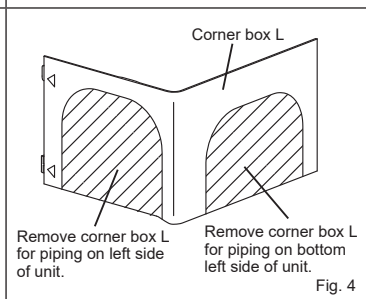
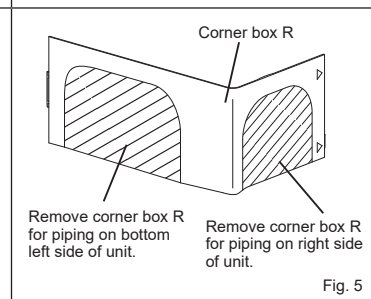

Fig. 4
Fig. 5
- 10) According to the piping direction, remove the shaded part of the corner box L (Fig. 4) or corner box R (Fig. 5). Reinstall electrical cover, corner box R and panel assembly.
- 6) Insert the drain hose into wall hole sleeve (C), and attach the upper part of indoor unit onto the installation plate (1). Then, shift the indoor unit completely to the left to make placing the piping in the back of the unit easier.
- 7) Cut out the spacer from the packaging styrofoam and set it on the rib on the back of the indoor unit. (Fig. 5)
- 8) Connect the refrigerant piping with the extension pipe (B).
- 9) Push the lower part of the indoor unit to fit into the installation plate (1), then attach the parts in the opposite steps of removal.